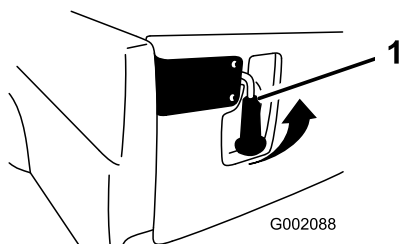

Figure 16
1. To open the tailgate latches, lift the latch handles up (Figure 16). The latches will spring out toward the center of the tailgate. Slowly lower the tailgate.